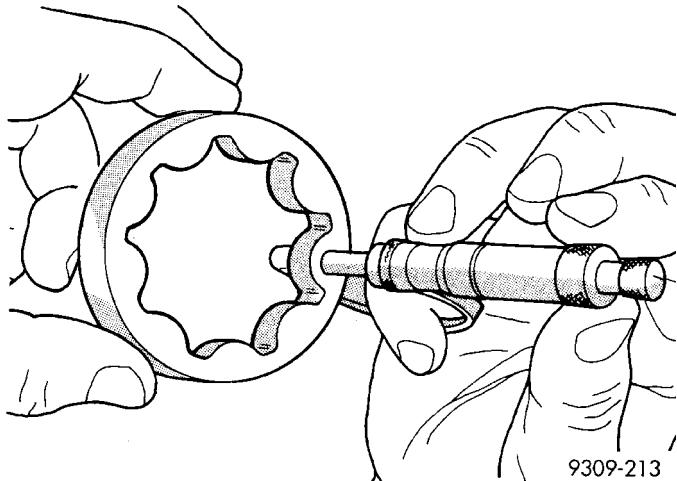

Fig. 108 Measuring Outer Rotor Thickness
(3) Measure thickness and diameter of outer rotor. If outer rotor thickness measures 7.64 mm (0.301 in.) or less (Fig. 108), or if the diameter is 79.95 mm (3.148 in.) or less, replace outer rotor.